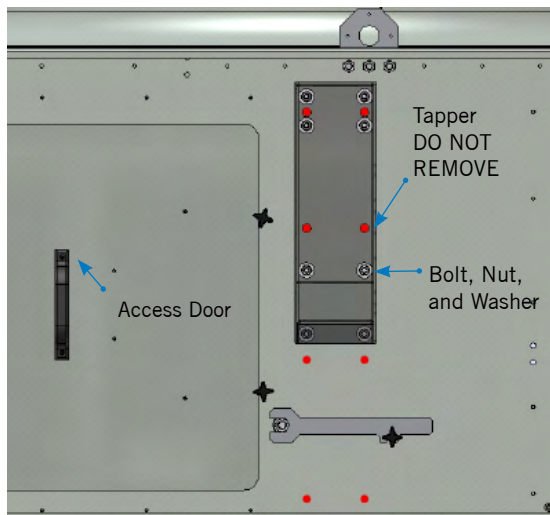

Figure 21c. Davit Support Detail
1. Verify the davit support is factory installed next to the access door. If not installed, remove the bolts next to the access door (refer to **Figure 21c**). **DO NOT REMOVE TAPPERS**. Secure the davit support by re-installing the bolts.